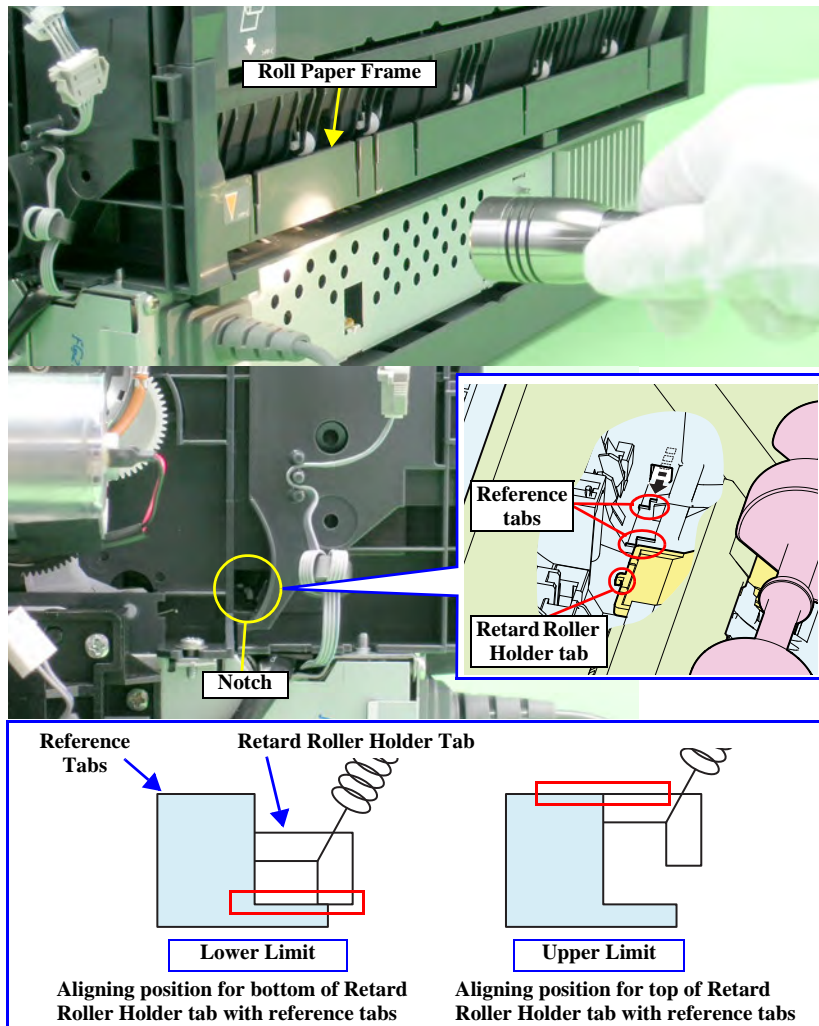

Figure 5-28. Aligning the Position of the Guide Roller LD (0 Digit Side)
- Light the printer's inside through a gap between the Roll Paper Frame and the ASF Assy with a penlight, and look the tab on the Retard Roller Holder at the back of the two reference tabs on the ASF Assy through the notch. After making sure that the two reference tabs are aligned when viewed edge-on, adjust the position of the Retard Roller Holder Tab by pressing the Guide Roller LD (0 digit side) so that it is placed within the range as shown in the simplified diagram in Figure 5-28.